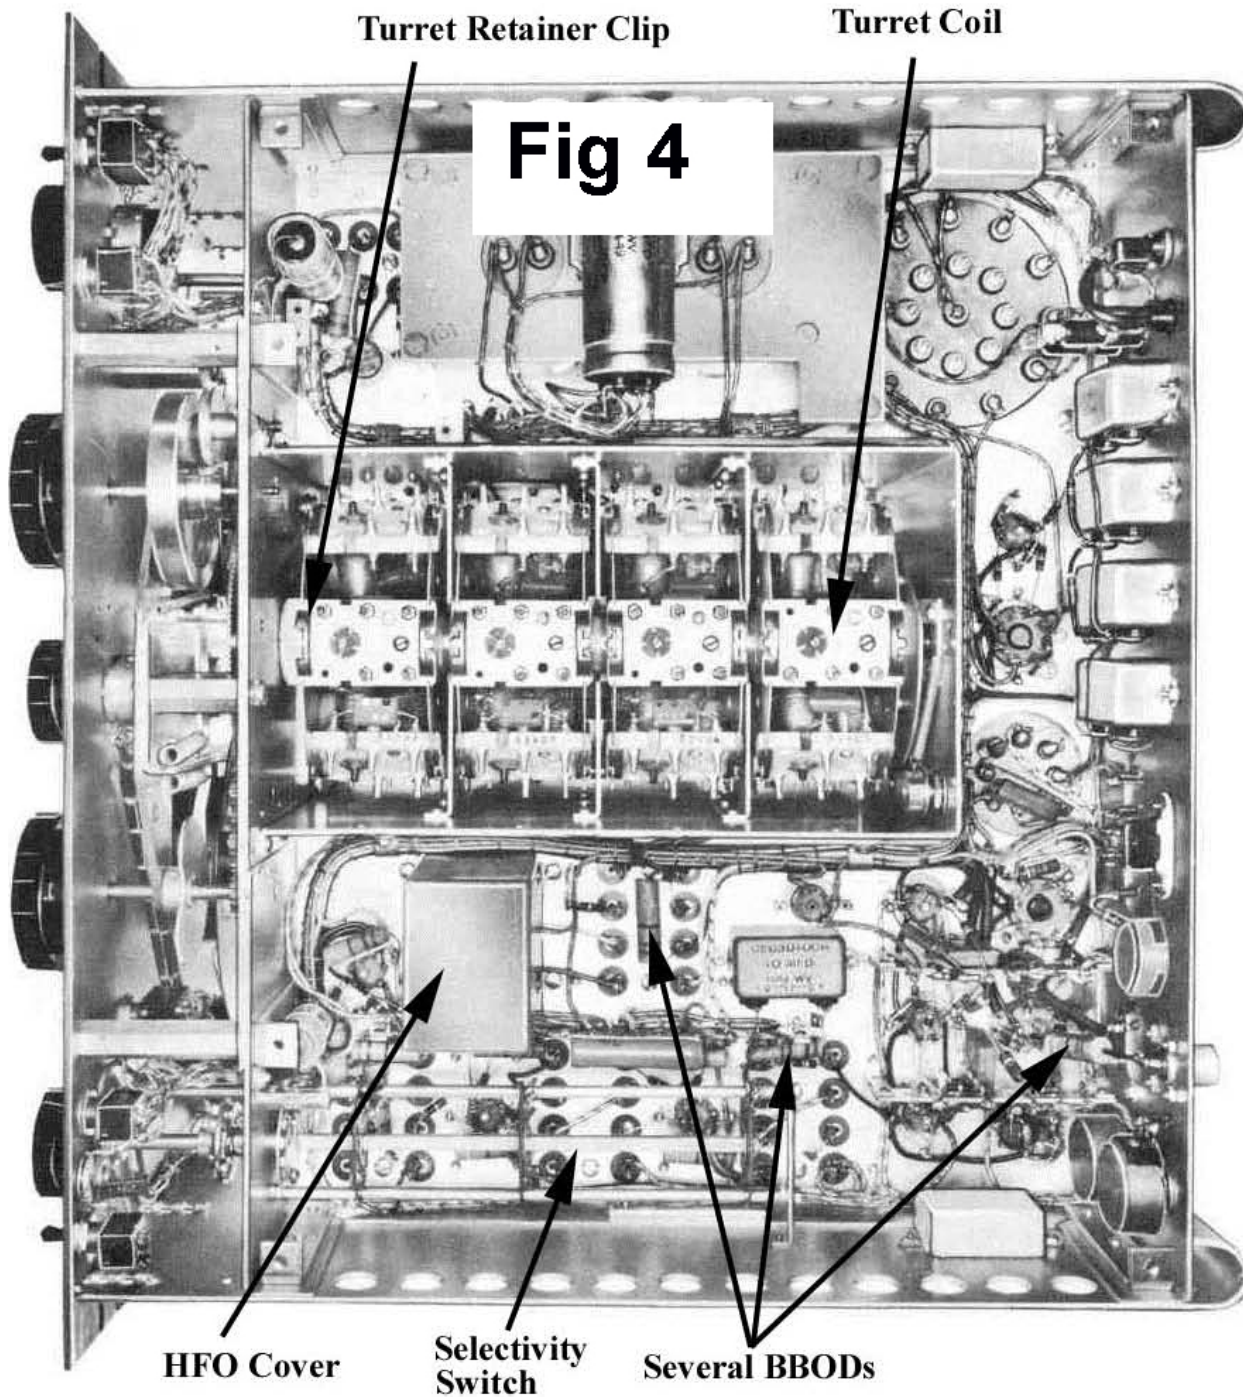

figure 4
| (1) RF Deck (Fig 3) | (5) T9 (HFO oscillator section) (Fig 4), |
| (3) IF transformers (Fig 3), | (7) Underchassis (fig 4) |
| (4) Band switch turret coils (Fig 4) | |
F. Turret Coils - Refer to figure 4.
H. T9 HFO assembly. Refer to figure 4.
I. Underchassis - Refer to figure 4.